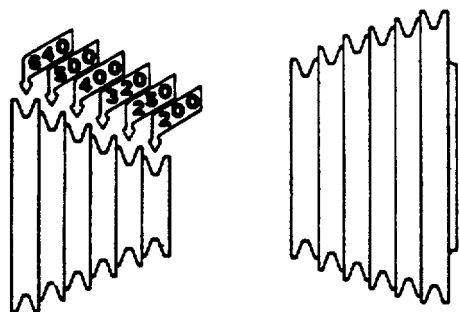

FIGURE 21
- (1) Use 320 RPM for most passenger car rods and light truck rods in 1.9" 2.6" (48-66 mm) diameter range.
- (2) Use 250 RPM for large truck rods over 2.6" (66 mm) in diameter.
- (3) To change speed, turn motor OFF and shift V-belt to groove providing desired speed (see Figure 21). For easiest belt shifting, always move belt to smaller diameter groove on either pulley first.